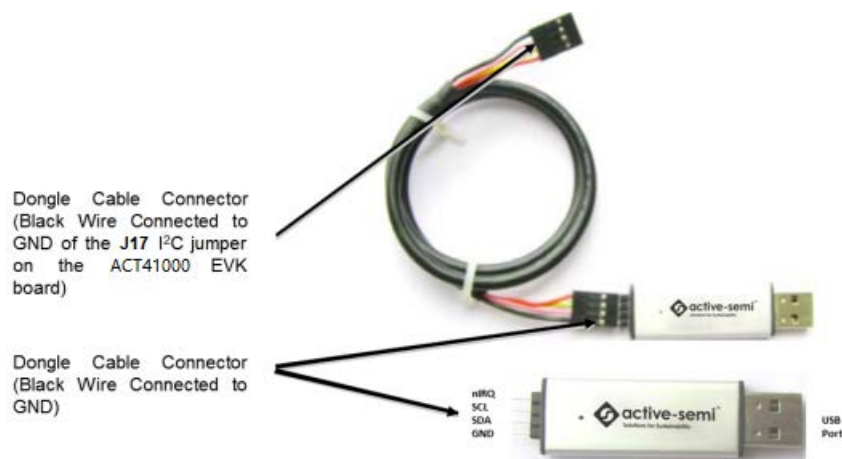

Figure 3. USB-TO-I2C Dongle Connection
3. Connect the USB-TO-I2C dongle to the EVK J17 connector. Refer to Figure 3 to ensure the correct